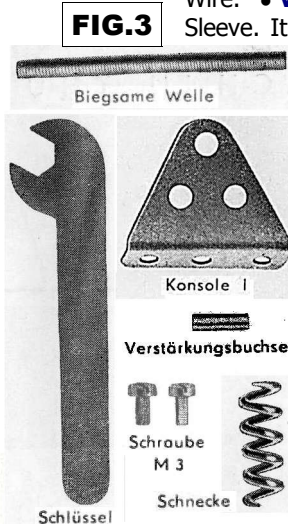
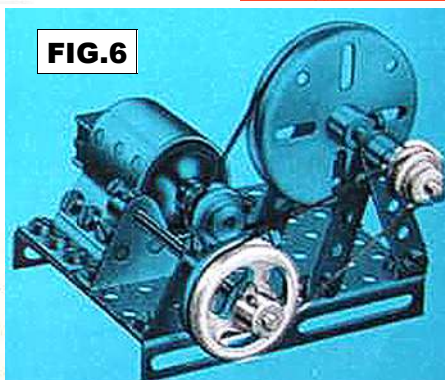

FIG.3
FIG.6
- **Worm**. The TRIX wire type, see Fig.3 – it is next to the blade of the Screwdriver in Fig.1.
Missing from the Set, it can be seen in Fig.6. • **Motor**, 4.5v, 150mA, 2500 rpm. • **Motor Mount**. The Motor is clamped between the top & bottom formed plates. • **Igelitierte Cu-Litze** = Igelitierte (meaning not found) Copper Connecting Wire. • **Verstärkungsbuchse** = Strengthening Bush or Sleeve. It is shown in Fig.3 but its use is unknown. In some Ebay photos the Motor's shaft looks substandard and so it could be a push-on sleeve – but one might think though that this would have been done in the factory. • **Flanged Plate**, 5*9h. In the manual 2 long slots are shown in each flange but the part in
Fig.1, and the only example where the flanges can be seen in the Ebay sets, has 9 holes instead. • **Strip** 3h {2}. • **A/B** {2}. • **Trunnion** {2}, see Fig.3. • **Insulating Strips** 3 & 5h {4,4}. • **Insulating Washer**, 4*10*1mm {10}. • **Axles**, 75 & 110mm. • **Crank Handle**. • **Screwed Rod**, 60mm. • **Coupling** {2}. • **Collar** {4}. • **Flexible Coupling**.
It is shown in Fig.3 (Biegsame Welle) and may be the MECCANO type, perhaps about 6cm long. • **Bolts:** M4 {50}; M4 x 12mm {3}; M3, for the bosses {15}. For reasons unknown two types are shown in Fig.3. • **Nut** M4 {70}. • **Spanner**, see Fig.3 but the actual part is longer has a cranked ring opening at the other end. In one Ebay set the tray has a dedicated recess for it between the Gears and the Motor. • **Screw-driver**, wooden handled.